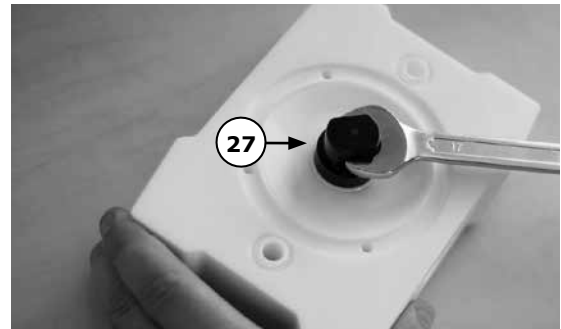

Figure 11
Unscrew both end caps of the air valve (27) by using the AV tool (see Figure 11)
Remove the end caps, the main-valve and the air valve shaft out of the the air-valve (27). Screw one end cap flush into the centre housing (01) by using the AV tool (see Figure 11). Put 1 off the six air-valves housing o-rings part of (27) into the end cap.
Put the last air-valve housing o-ring on top of it and screw the second end cap flush with the centre housing using the AV tool (see Figure 11).